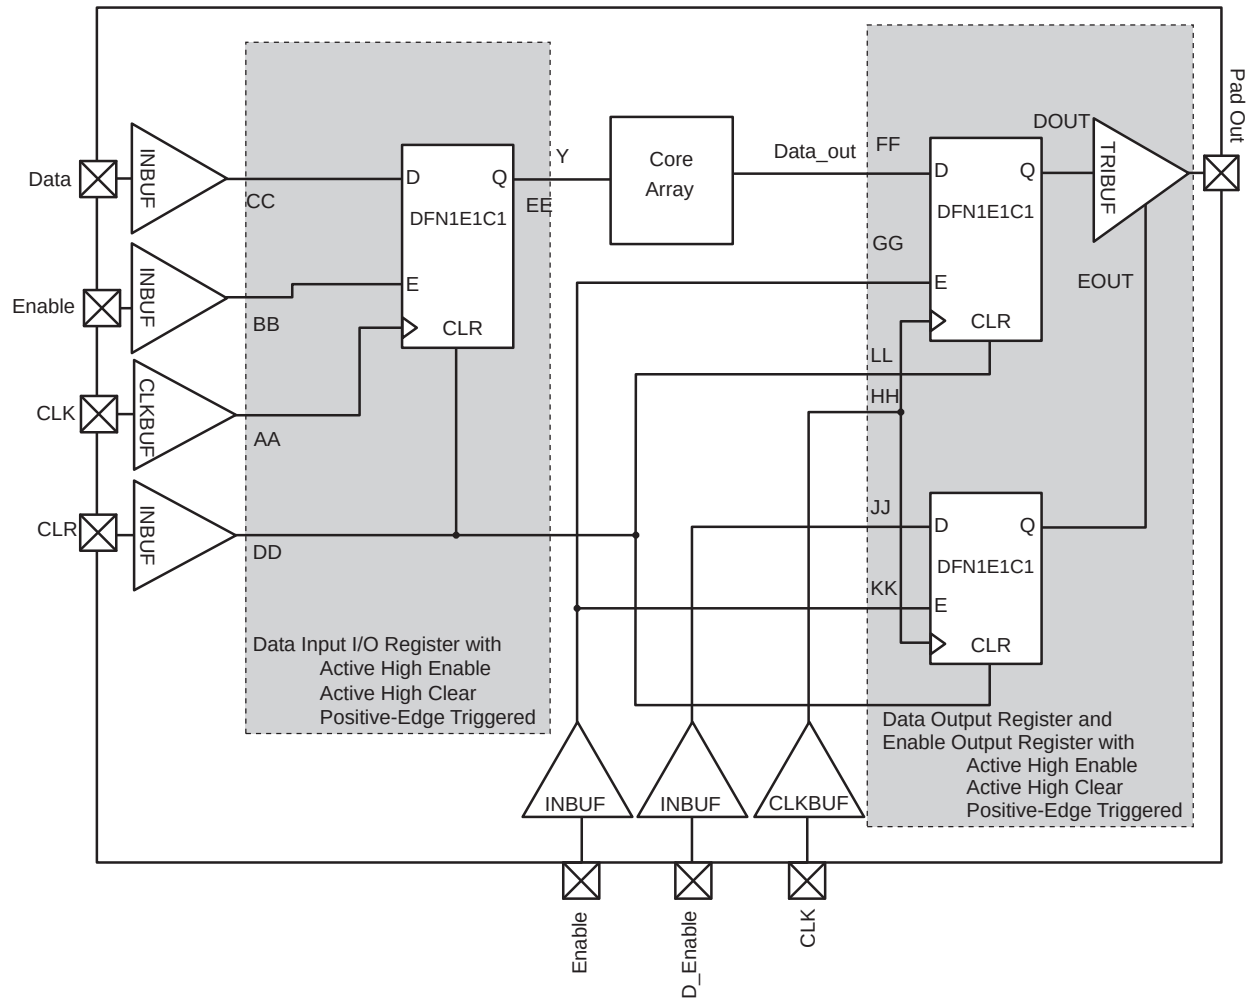

**Figure 2-17 • Timing Model of the Registered I/O Buffers with Synchronous Enable and Asynchronous Clear**
**Note:** \*See Figure 2-17 on page 2-86 for more information.